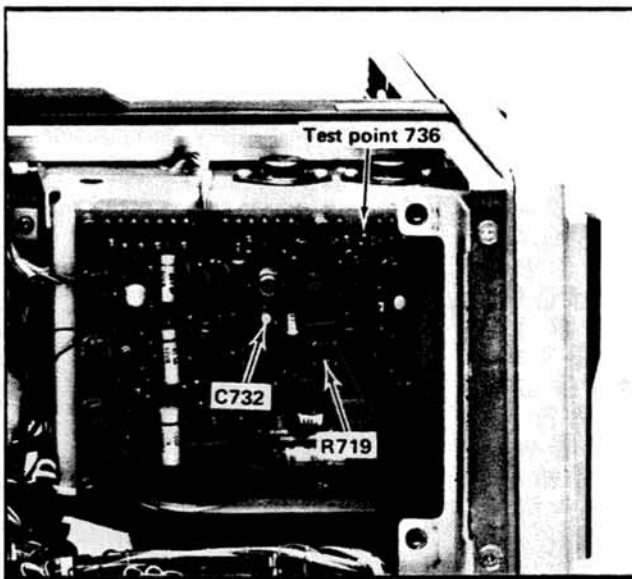

Fig. 5-23. Location of test point 736, C732, and R719.
- g. Turn the VERT TRACE SEPARATION (B) control fully CCW.
- j. Turn the VERT TRACE SEPARATION (B) control fully CW.
26. Check/Adjust Z-Axis Amplifier Compensation ❶
- d. Connect the P6053 probe to test point 736 (see Fig. 5-23) on the Z-Axis circuit board.
- f. ADJUST—R719 and C732 (see Fig. 5-23) for optimum square leading corner and a waveform risetime of 30 nanoseconds or less.
- g. ADJUST—R719 and C732 (see Fig. 5-23) for optimum square leading corner and a waveform risetime of 30 nanoseconds or less.